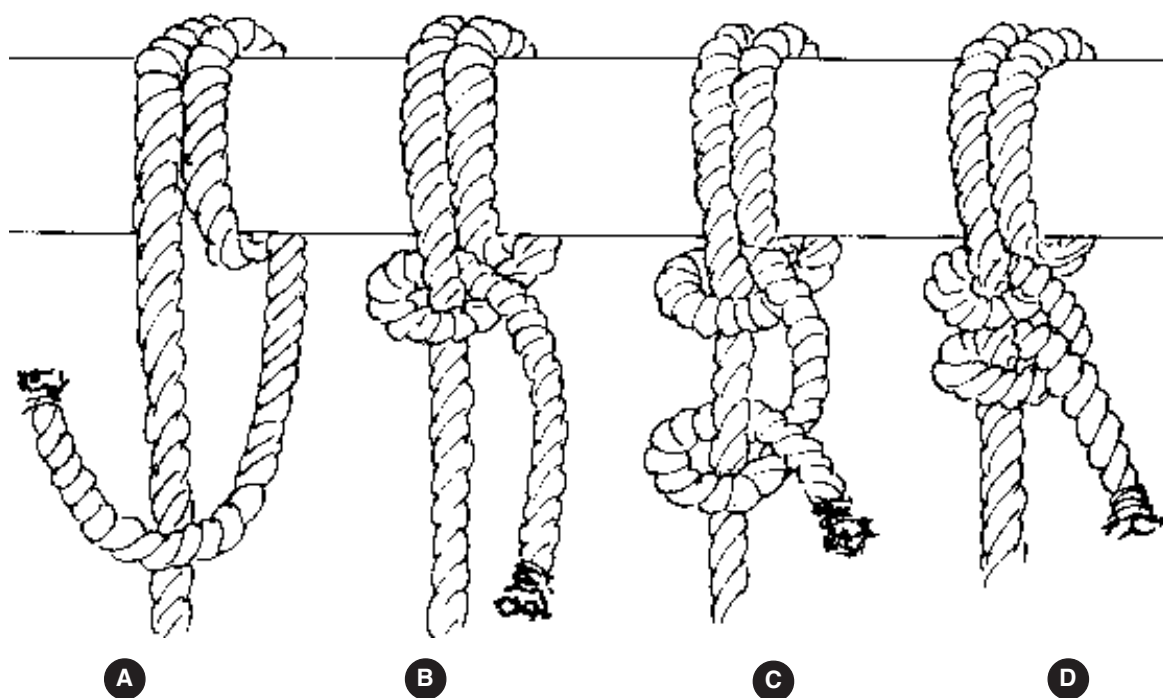

Figure 13.1 Round turn and two half hitches
1. Wrap the rope around a spar as shown in Figure 13.1 a.